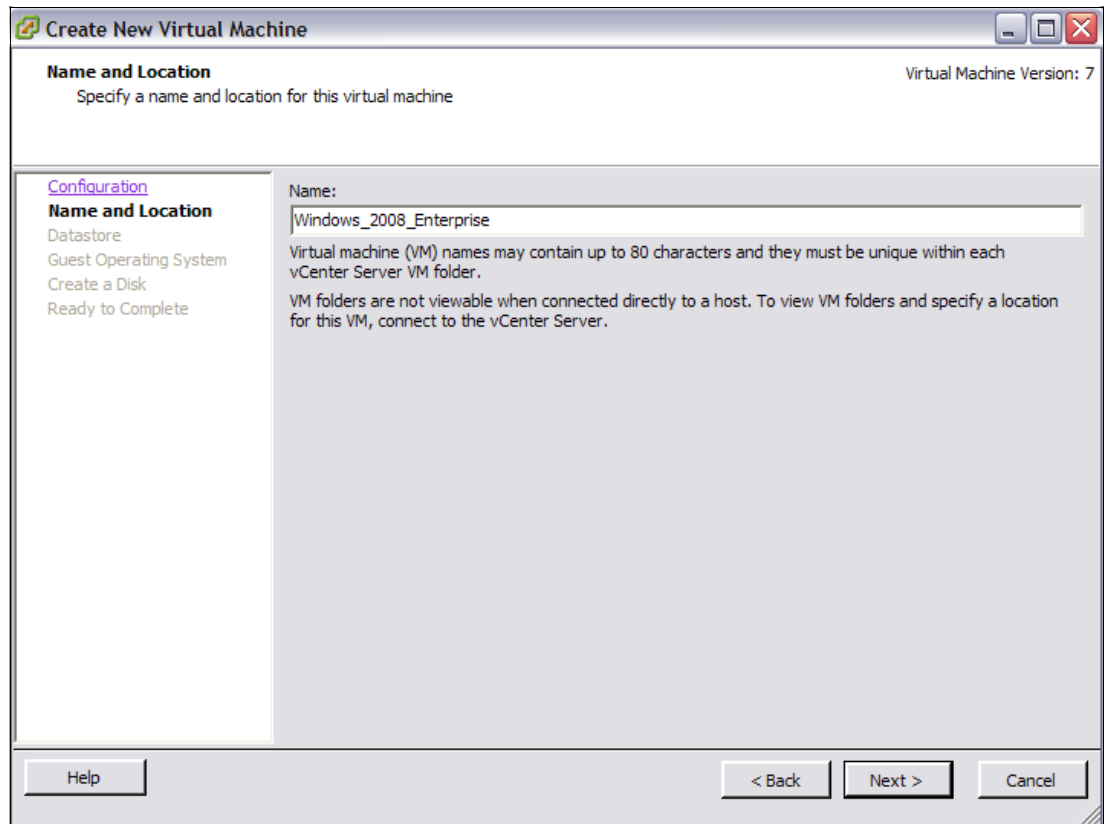

Figure 22-74 Virtual Machine Name
4. In the Virtual Machine Name field, type the name of the guest OS as it is registered in the DNS table (FQDN is not required) as shown in Figure 22-74 on page 706. Click **Next**.